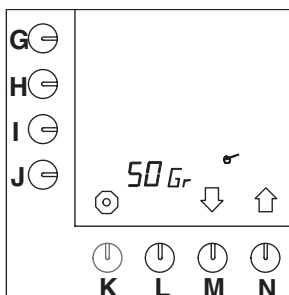

Fig. 37 Setting the coffee calculator
- Press selection key (N.)↑ until fig.37 appears on the display.